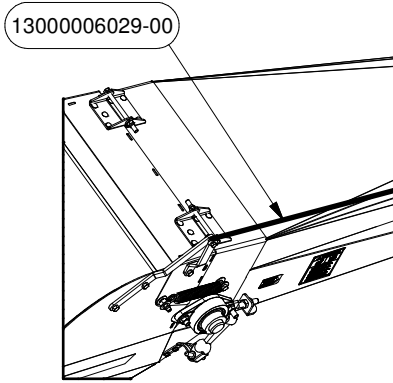

FIGURE 25.1
4. Wrap the Cable PN# 6029 to the Winch PN# 6693 as shown in Figure 25. Loop the other end to the Bolt located at the Arms and clamp it using Cable Clamps PN# 6030 as shown in Figure 25.1. Cable can be found in a Kit PN# 6611.